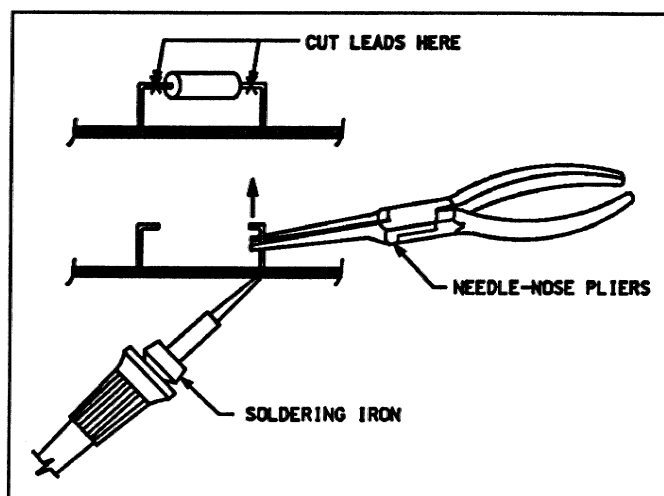

FIGURE 4-4. Component Removal
**4.2.6 Component Removal.** If a component is defective and must be replaced, cut the leads near the body of the component as shown in Figure 4-4.